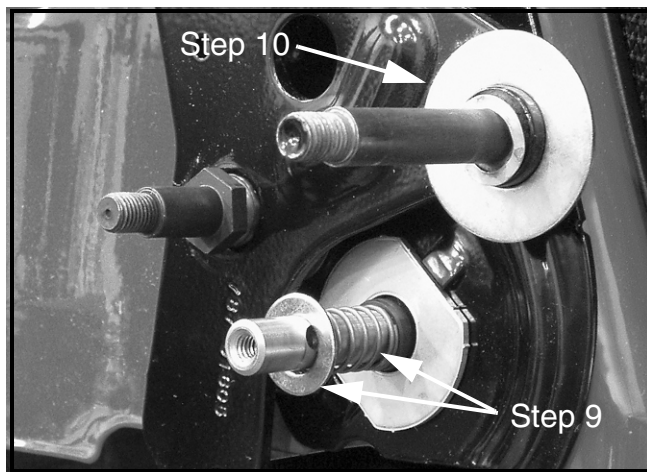

FIGURE 4
9. Assemble a Compression Spring, Item 1, and a Flat Washer, Item 4, onto the transmission's output shaft end. See Figure 4.
10. Assemble a Flat Washer, Item 2, onto the wheel axle shoulder. See Figure 4.